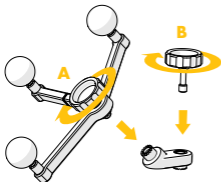

Figure 6: Tracker to elbow attachment
1. Mount the preassembled instrument tracker onto the elbow and rotate the knurled screw clockwise until the tracker is rigidly attached to the elbow. Refer to *Figure 6 A*.
2. Rotate the knurled screw through the elbow until the screw is loosely connected with the elbow. Refer to *Figure 6 B*.